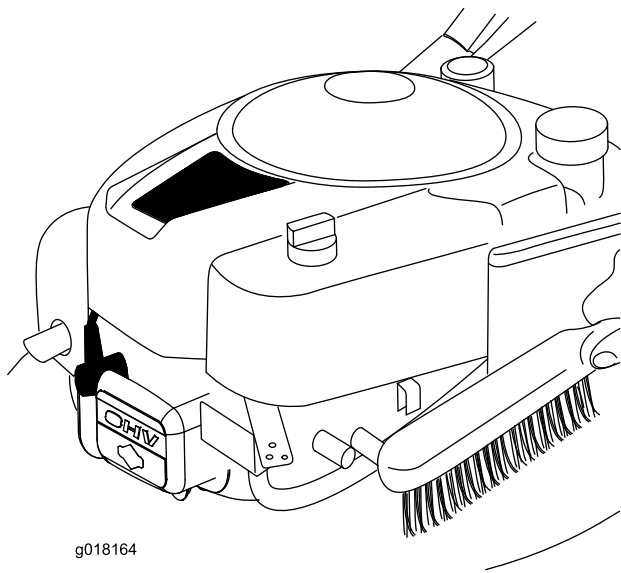

Figure 27
- Remove all grass and debris from the engine including the exhaust/exhaust guard, the air ways in the top cowl, and the surrounding deck using a brush or compressed air (Figure 27).